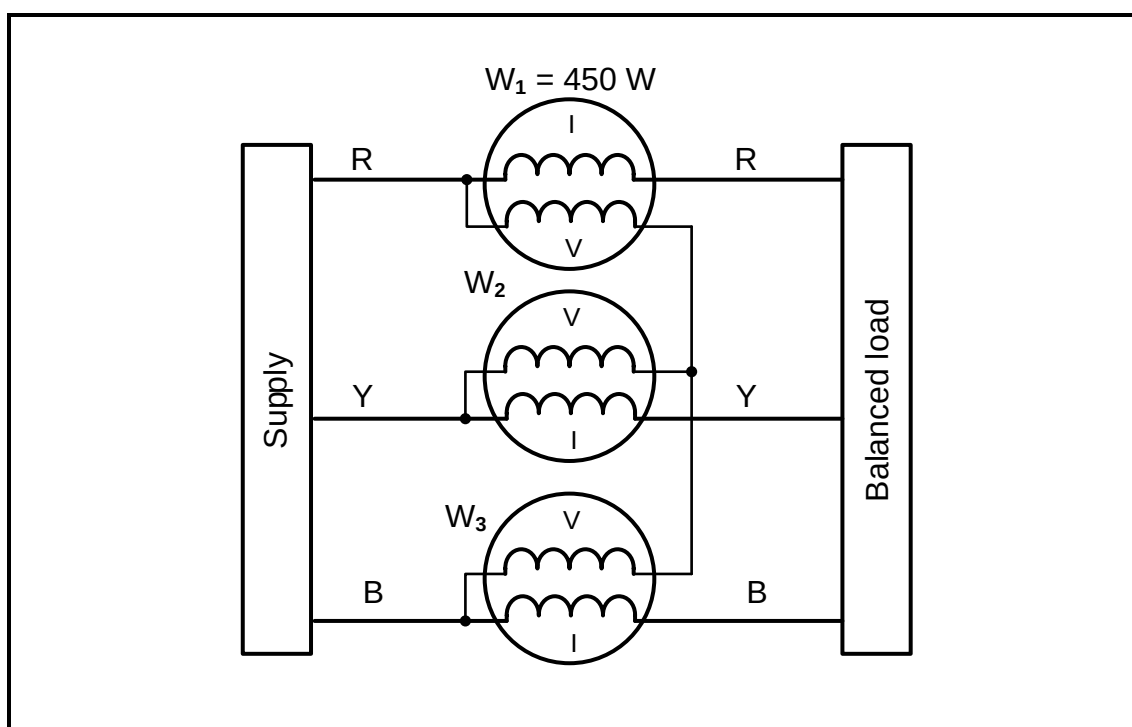

FIGURE 4.7: THREE-WATTMETER METHOD
4.7 FIGURE 4.7 shows three wattmeters connected to a balanced three-phase load. Answer the questions that follow.